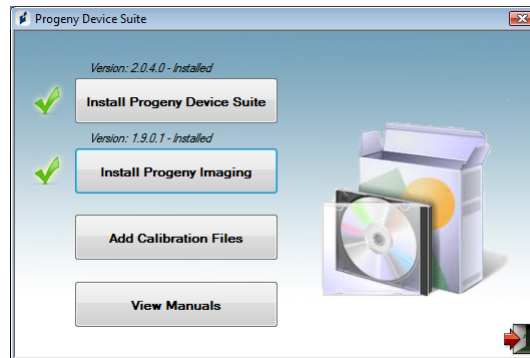

Figure 8: Main screen of the calibration file installation
- The main screen of the calibration file installation is shown on Figure 8. If the software on the USB flash drive does not start automatically, navigate to Windows Explorer™ and select the drive letter labeled “Progeny”. Browse to the content of the flash drive and start “Setup.exe”. This step begins the installation process.